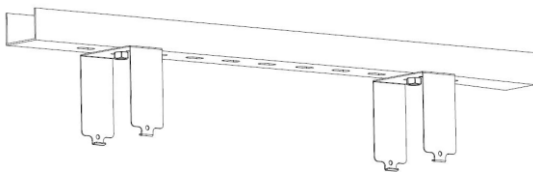

FIG.5
- 1 Securely mount the bracket onto the rail or ceiling. (Figure 5)